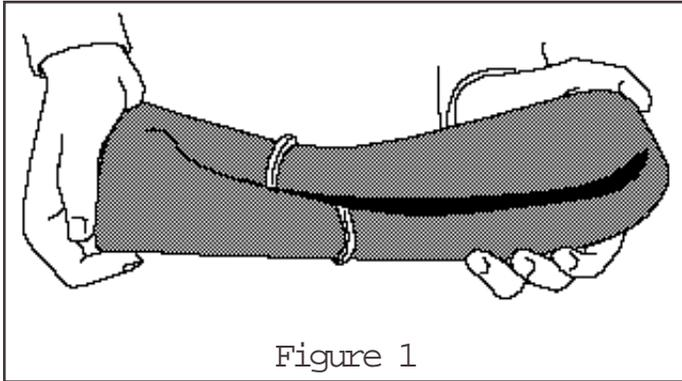

Figure 1
2. Remove plastic cap from barbed stem on end of cylinder. Exhaust the air from the cylinder by rolling it up toward barbed stem. Replace cap on stem to hold flat shape. Form cylinder into a "hot dog bun" shape. If necessary, use a string, tape, or wire to retain shape (Figure 1).
If the vehicle's headlights are shining into the trees or the vehicle is leaning to one side, then it is not level (fig. 1). Raise the air pressure to correct either of these problems and level the vehicle.